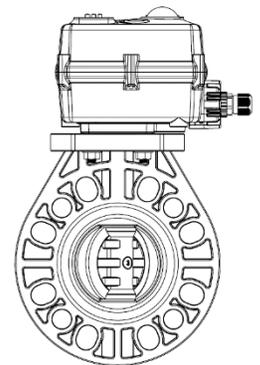

Figure 3
- a) If a unit is installed other than vertical (see figure 3), the actuator should be supported to prevent side loading and loosening up of fasteners.